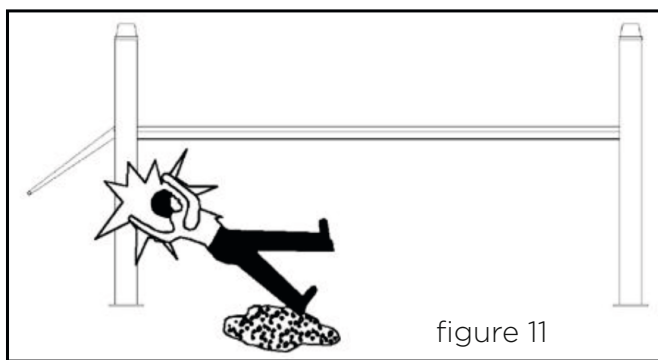

figure 11
**FALL HAZARD - VEHICLE (Figure 11)**